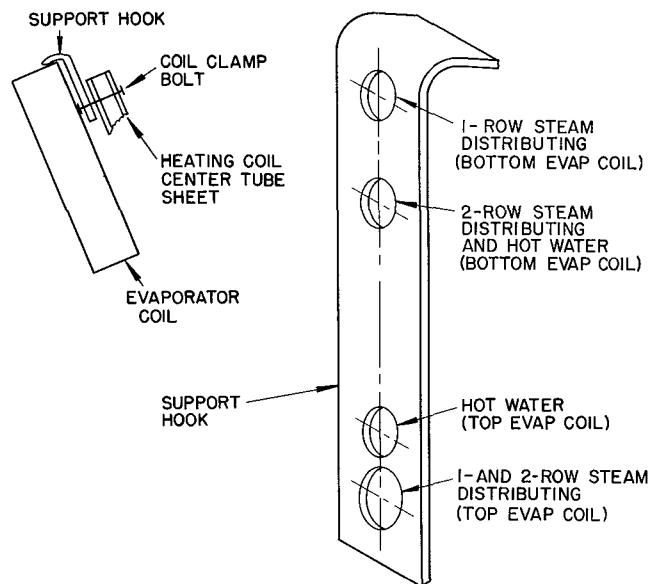

Fig. 10 — Mounting Holes for Support Hook and Assembly Sketch
3. Assemble the support hook to the tube sheet by means of the coil clamp bolt. See Fig. 10 for the proper hook mounting hole to be used for specific coil and installation location (top or bottom evaporator coil).